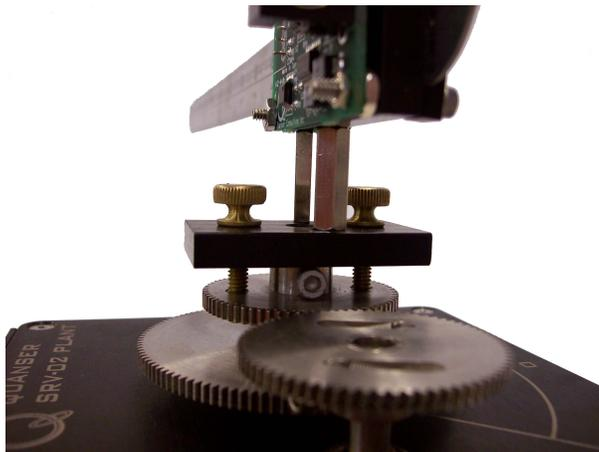

Figure 4.1: Mounting the FLEXGAGE onto the SRV02
3. Secure the FLEXGAGE in place by tightening the two supplied thumbscrews. The final configuration of the FLEXGAGE module after being mounted to the SRV02 plant should resemble Figure 4.1.